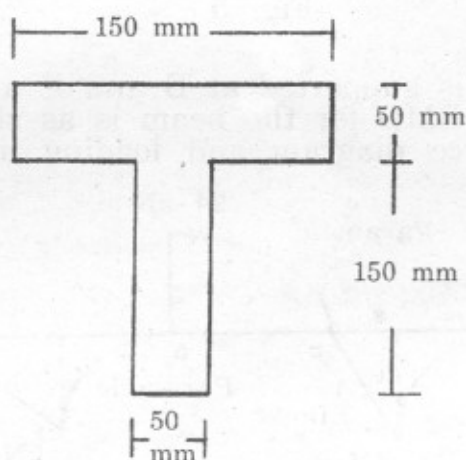

Fig. 8
- (b) A simply supported beam of span 4 m carries UDL of 80 kN/m over the entire span. Draw the shear stress distribution diagram at support indicating all important values. Refer Fig. 8. [8]